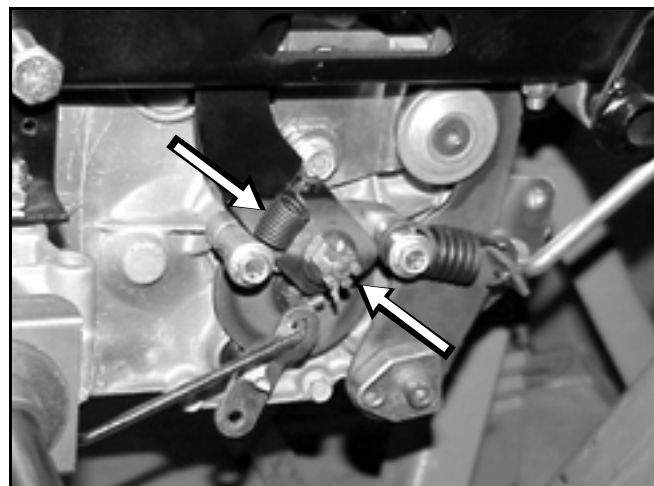

Figure 130
2. Install brake arm and castle nut. Adjust the brake (page 3 - 21) (Figure 130).